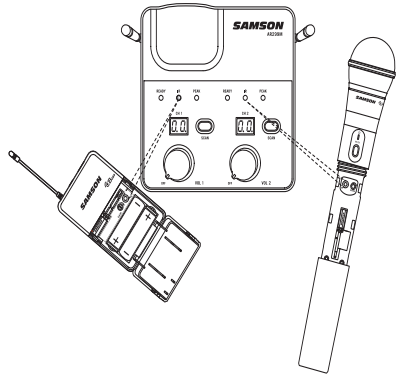

Figure 2
5. With transmitter POWER set to “on” position the CH88 or CB88 transmitter about 6-12” (15-30 cm) from the front of the AR299m with the transmitter’s battery door open and IR window facing the IR transmitter on the front panel of the AR299m receiver (figure 2).